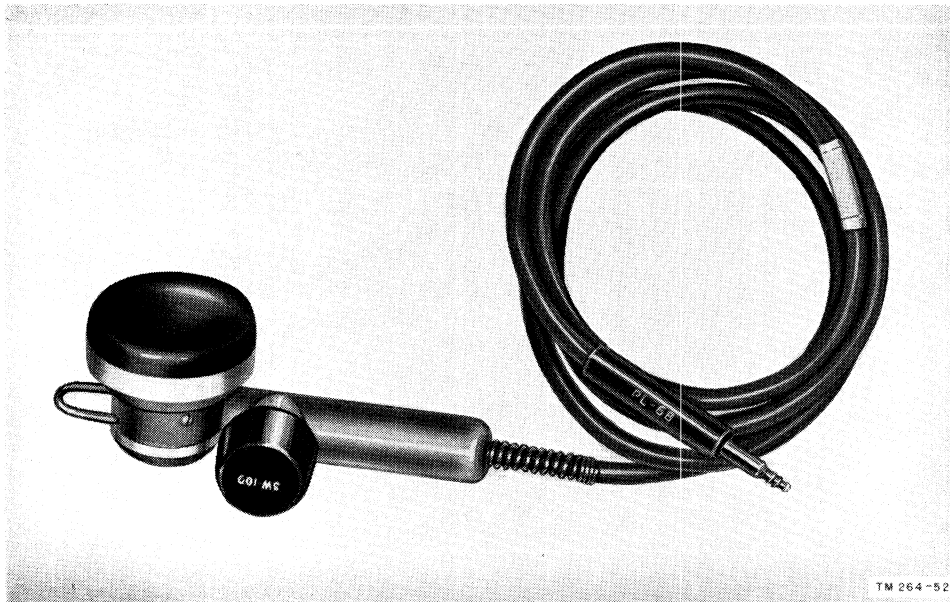

Figure 23. Microphone T-17.
c. MICROPHONE T-17 (fig. 23). Microphone T-17 is an antinoise, carbon-button, type of hand microphone. The plug on the microphone cord plugs into the CARBON MIC. 1 jack on the front panel of Speech Amplifier BC-614-H. The press-to-talk button on the microphone handle controls the operation of the transmitter, turning it on for speech operation when the microphone press-to-talk button is pressed.